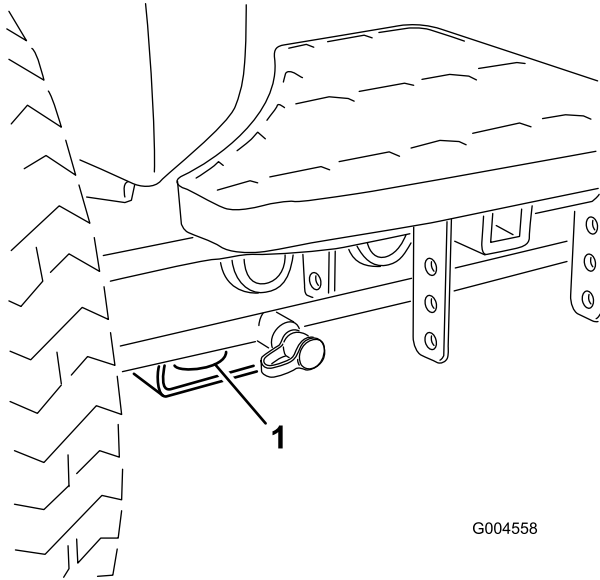

Figure 27
- Front—the hole in the rectangular pad, under the axle tube, inside each front tire (Figure 27).